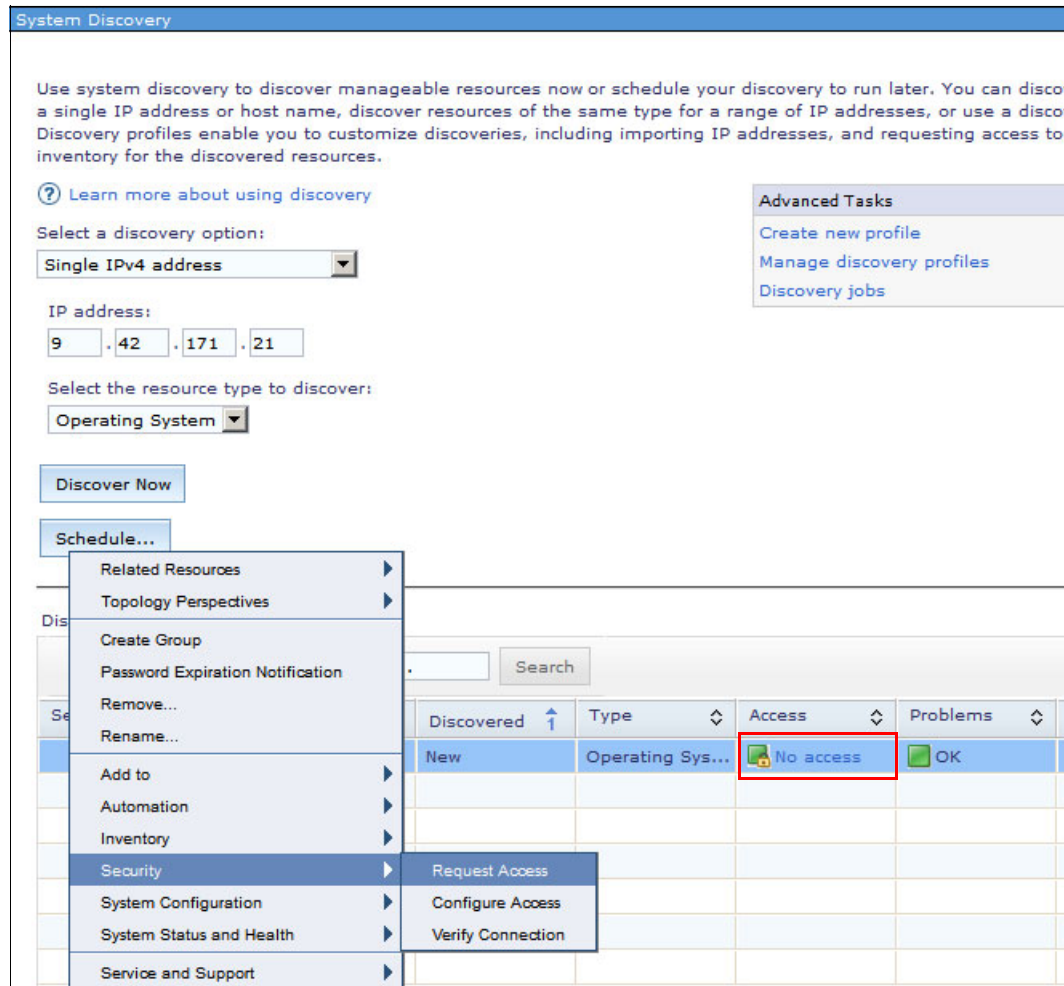

Figure 6-69 Newly discovered systems
1. Select one or multiple discovered systems with no access (No access is listed in the Access column). Then, click **Actions** → **Security** → **Request Access**, as shown in Figure 6-69.